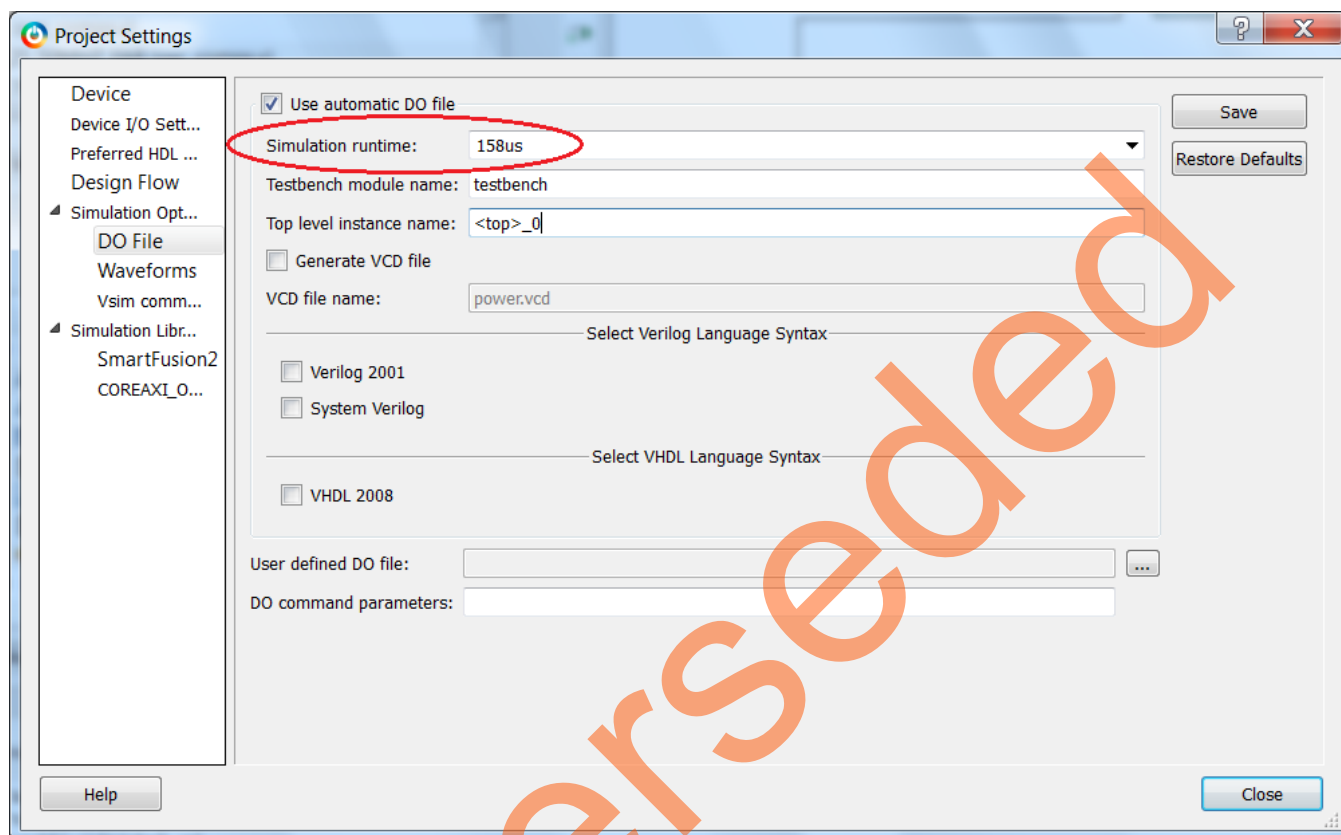

Figure 29. Simulation Runtime
1. The simulation tool must be set up before invoking so that it loads with the desired settings. Select **Project > Project Settings > Simulation Options > Do File**. Set **Simulation Runtime** to **158 us**, as shown in Figure 29.